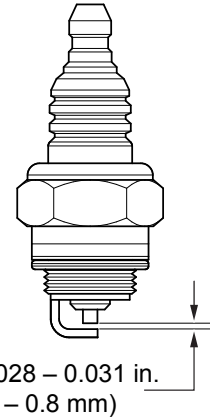

**Figure 58. Draining Engine Oil**
1. Remove the drain bolt and sealing washer, and allow the oil to drain into a suitable container (Figure 58).